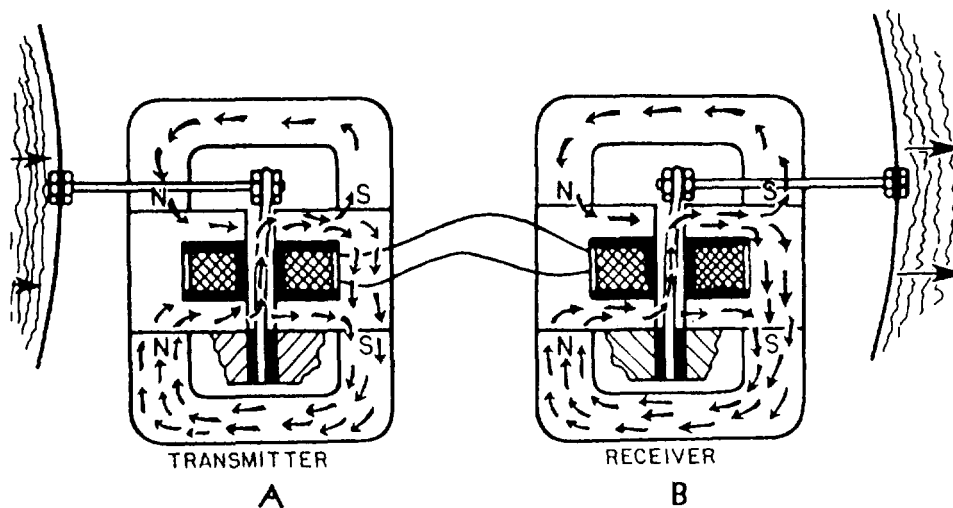

Figure 5-9.—Operation of sound-powered units.
**Principles of Operation of the Receiver Unit.**— The sound-powered receiver unit reverses the transmission process. The alternating voltage generated in a transmitter unit is impressed upon the receiver coil, which surrounds the armature of the receiver unit. The resultant current through the coil magnetizes the armature with alternating polarity. An induced voltage in the coil of the transmitter unit (fig. 5-9, view A) causes a current to flow in the coil of the receiver unit (fig. 5-9, view B), magnetizing the free end of the armature arbitrarily with north polarity. The free end of the